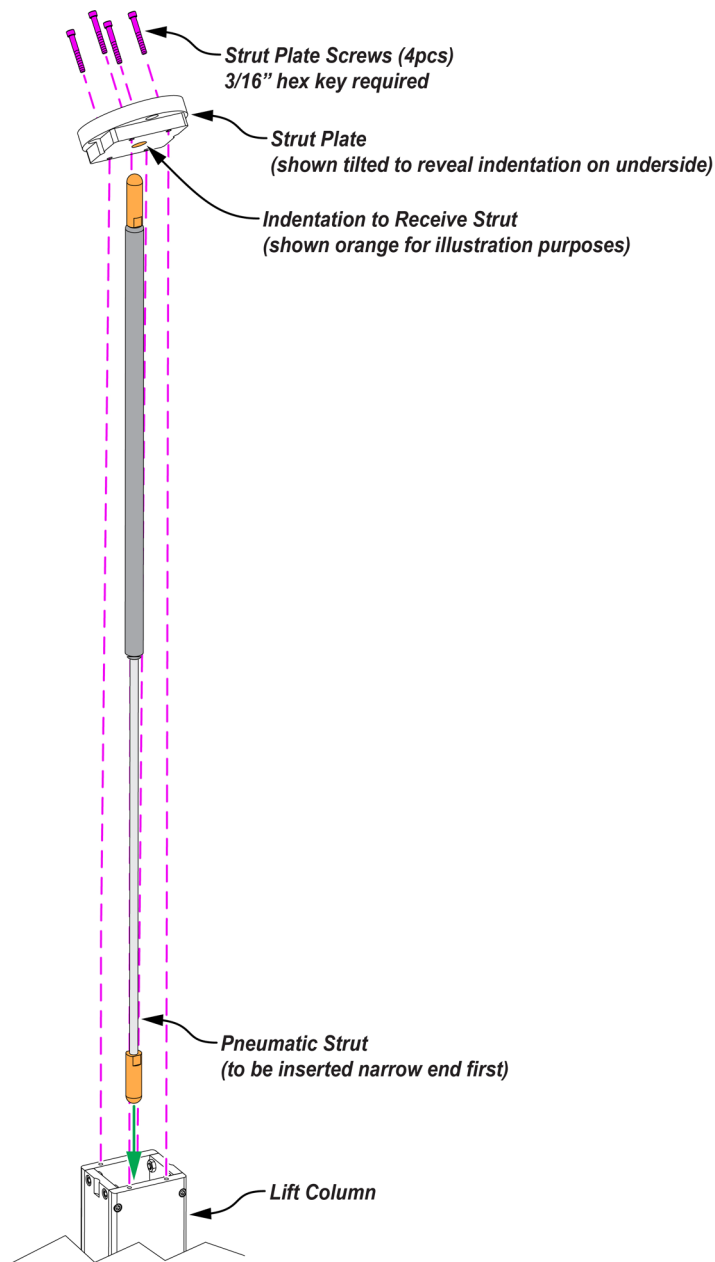

Figure 8 - Inserting the Pneumatic Strut (narrow end first)
11. Insert the new strut into the lift column, narrow end first, as shown in **Figure 8**.